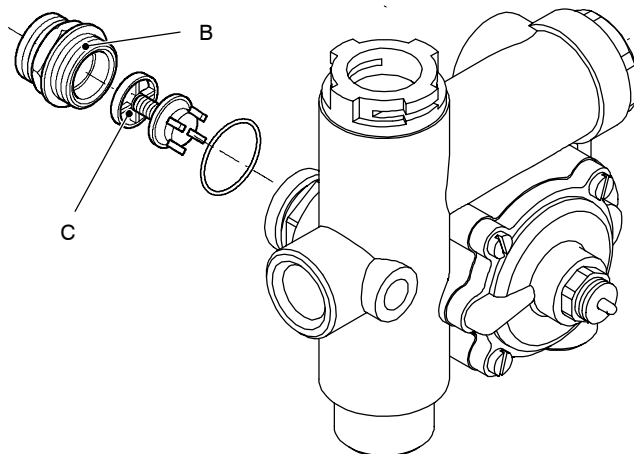
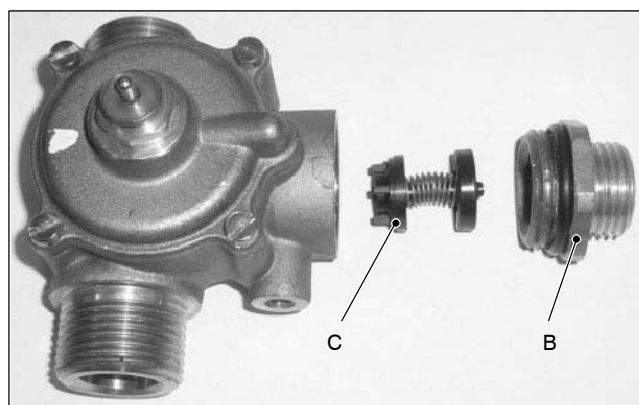

Fig. 16.2
Fig. 16.3
- 4 Unscrew the connector B and remove the by-pass valve C (Fig. 16.2) (Fig. 16.3).
- 5 Reassemble the by-pass valve as illustrated in Fig. 16.2 – Fig. 16.3 reversing the order of removal.